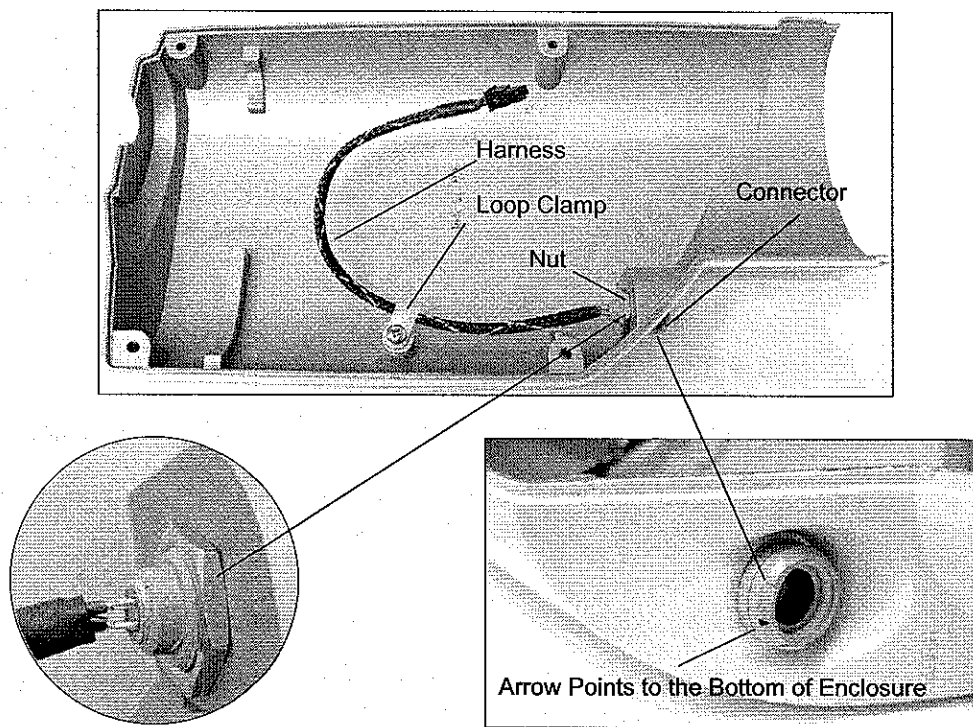

Figure 5-14: Heater Harness
3. Remove the loop clamp by removing the Phillips screw, flat washer and lock washer (see Figure 5-14).
4. Use the adjustable wrench to remove the hex nut on the inside of the Rear Enclosure (see Figure 5-14) and remove the Heater Harness.
1. Install the Heater Harness into the Injector Head's Rear Enclosure. Make certain the black arrow on the connector is pointing to the bottom of the enclosure (see Figure 5-14).
2. Use the adjustable wrench to secure the Heater Harness with the hex nut (see Figure 5-14). **DO NOT OVERTIGHTEN.**
3. Secure the cable with the loop clamp. Install in the following order: loop clamp, flat washer, lock washer, and Phillips screw (see Figure 5-14).